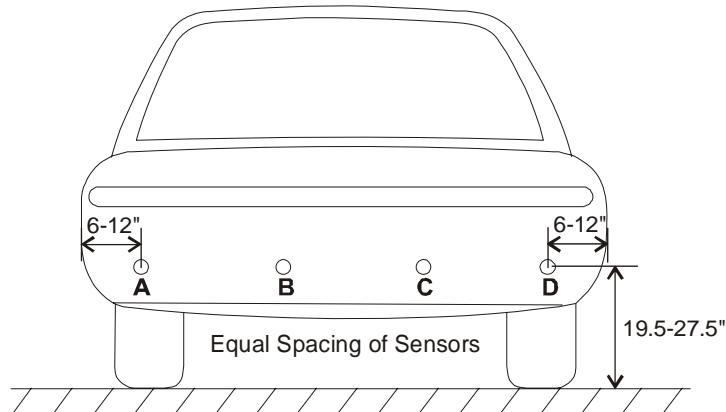

Figure 1
- c. Determine the center of your bumper and mark. Measuring 12" to 18" from the center mark, determine the location of the center two sensors and mark, keeping the four sensors equally spaced (see Figure 1).